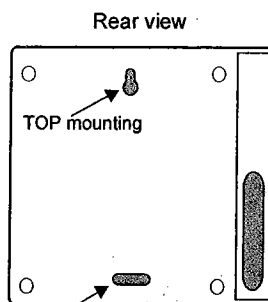

Fig. 9
1. Secure the TOP mounting screw to the wall leaving some length of the screw out to hang the receiver (Refer to Fig. 9).